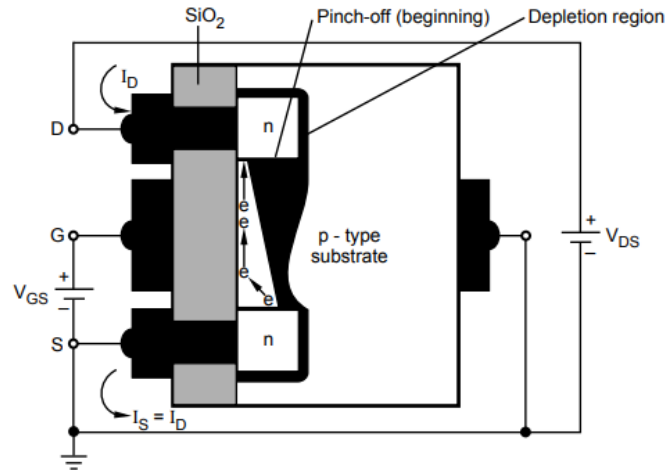

Figure 2.14: Change in channel and depletion in MOSFET
- When saturation occurs, the channel becomes narrow toward the drain, as shown in Figure 2.14.